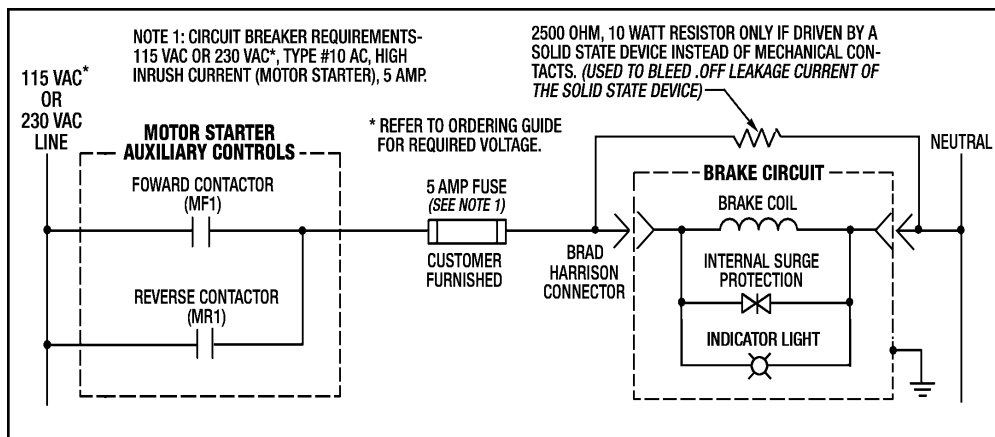

Figure 3.7 - Electrical Wiring Diagram
If your *MagnaShear* Motor Brake is shipped pre-assembled to a drive motor, it is filled with oil and ready to run except for installing the Air Breather (#45) and electrical wiring. (See Figure 3.7 and 3.8 for Electrical Wiring Diagram.)
2. Push the Fan (#120) back against the small shoulder on the Hub (#2), then slide the Brake Unit onto the motor shaft as far as it will go. Align the (4) mounting holes with the motor and attach with (4) Mounting Bolts (#149) and (4) Lockwashers (#127). Finger tighten the (4) bolts. **Make sure the brake is snug against the motor face.**
3. Connect the electrical service to the Brad-Harrison Connector and actuate the brake coil to release the brake. (See Figures 3.7 & 3.8)
- Connect the electrical service to the 5-Pin Brad-Harrison Connector and actuate the brake coil to release the brake. (See *Figures 3.7 and 3.8*)
- Evenly torque the (2) Screws in the Clamping Collar (#111) to **20 Lb. Ft.**
(See *Figure 3.7 and 3.8*)